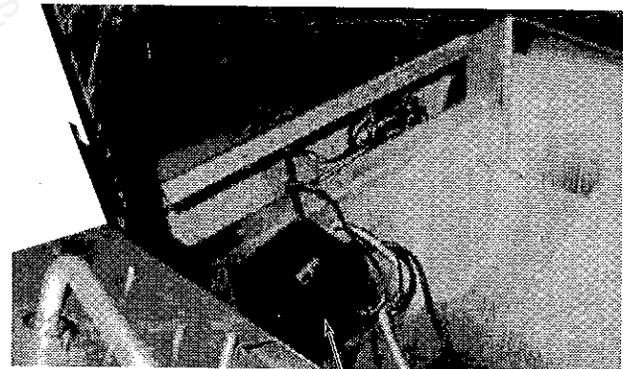

Figure 10
6. Apply the supplied velcro strip to the bottom of the receiver box and attach the box to a convenient location near the front of the fireplace. The receiver box fits best on the left side of the insert floor. *Figure 10*